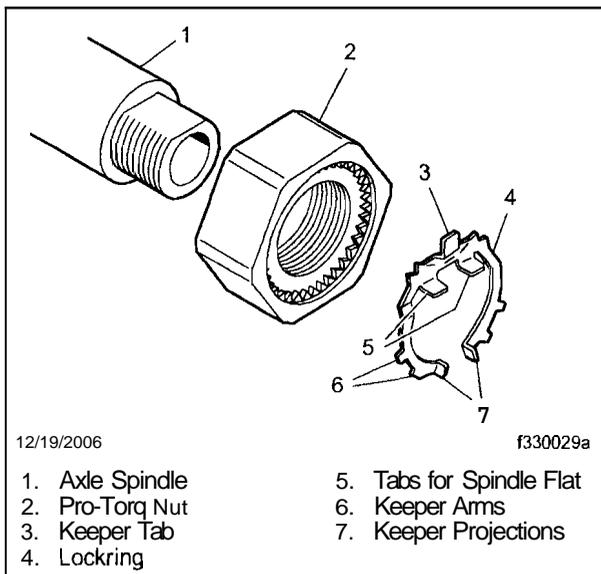

Fig. 1, Pro-Torq Retaining Nut
9. Compress the lockring, then remove the Pro-Torq retaining nut. See Fig. 1.